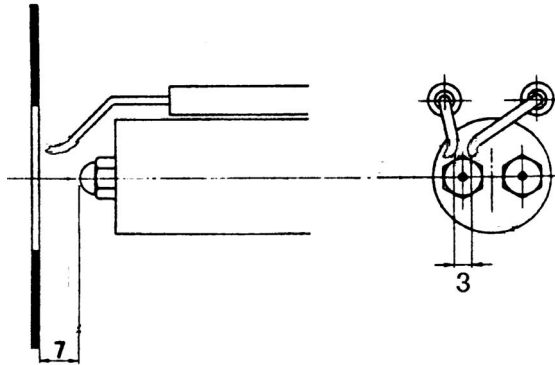

Fig. 17
- dismantle, examine and clean the combustion head (see next paragraph); reassembling the combustion head be careful to respect the measures in Fig. 17;
To ensure a good ignition, the measures shown in Fig. 17 must be observed. Be sure to tighten the lock screw of the electrodes assembly, before refitting the combustion head.